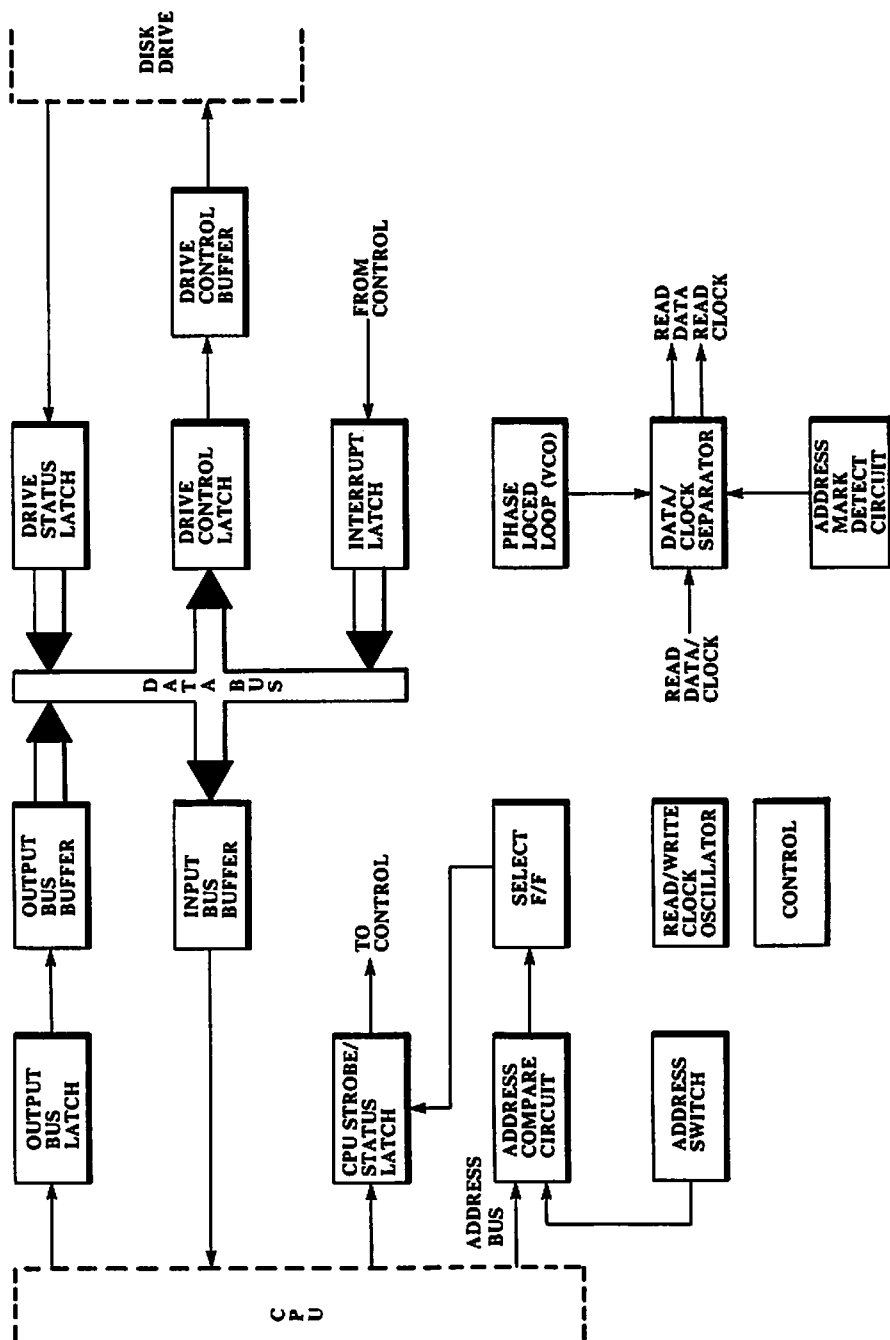

FIGURE 5-4 2200/DISK INTERFACE BLOCK DIAGRAM
5.5.2 2200/DISK INTERFACE (ref: FIGURE 5-4)